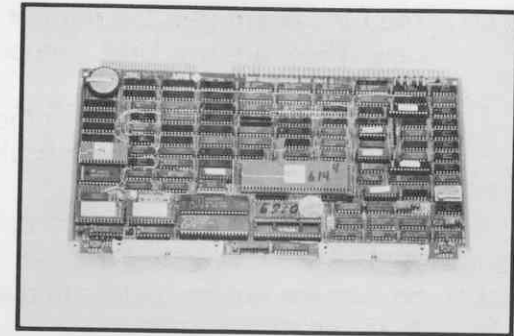

Figure 7 Sun 2 CPU Board and Jumpers
- 1.12** Identify the Sun 2 CPU board received in the Upgrade Kit, as shown in Figure 7.
This board has 4 jumper plugs near its edge. Check that the jumpers are as shown in Figure 7.